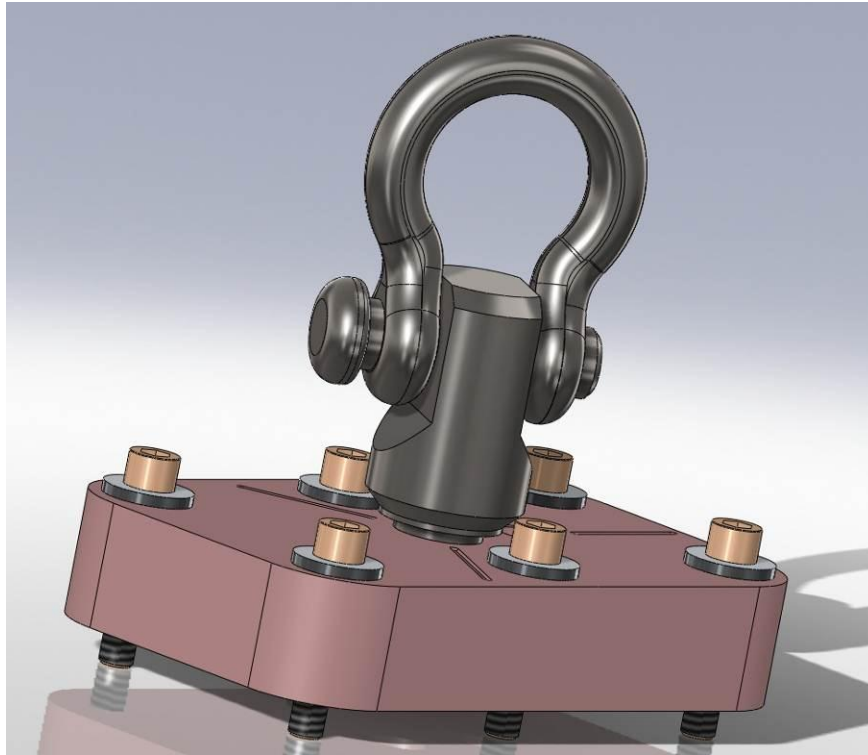

Figure 168: D1000756 Safety Lift Hook Receiver
1.95. Thread Hoist Ring onto the D100753 Lift Hook Safety Base (see Figure 168)